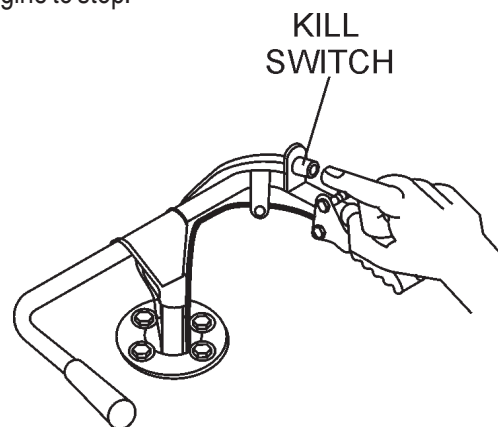

Figure 15. Engine Kill Switch
1. The Whiteman Ride-On Power Buggy is equipped with a safety **kill switch**. This switch is located on the handle bar assembly (see Figure 15).
4. Press the powerbuggy's **kill switch** (Figure 15) and listen for the engine to stop.